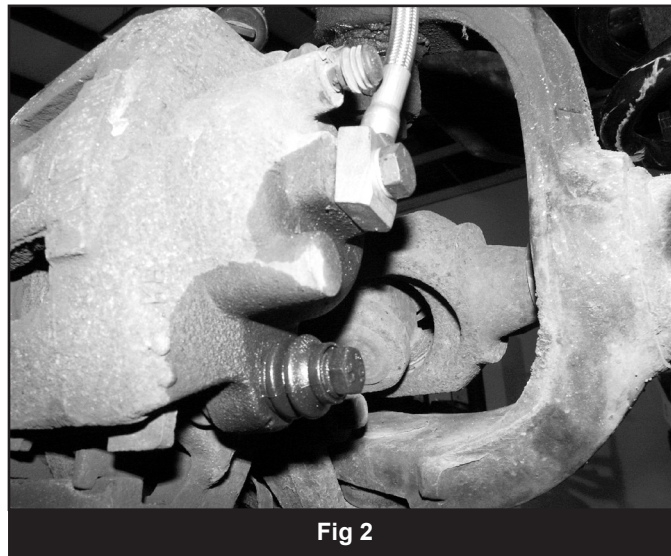

Fig 2
Note: One (1) washer is required on EACH side of the fitting. Brake line must face up after installation. (Fig 2). Torque bolt to 20 ft-lbs.